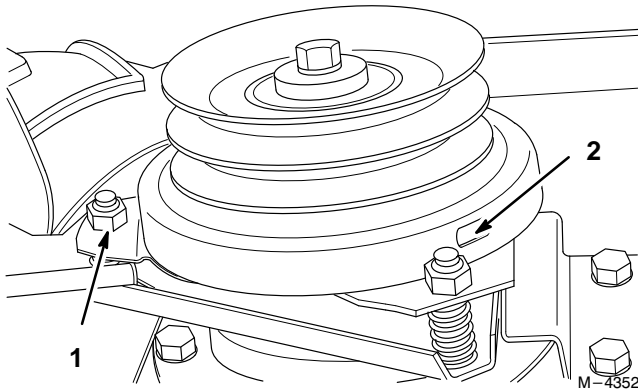

Figure 30
2. To adjust clutch, tighten or loosen lock nuts on flange studs (Fig. 30).